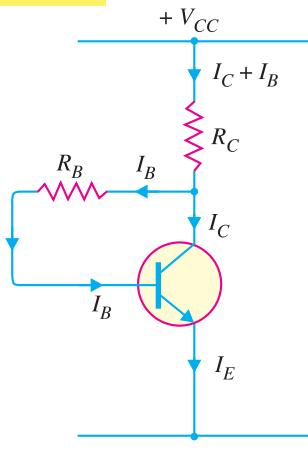

Fig. 9.19
In this method, one end of  $R_B$  is connected to the base and the other end to the collector as shown in Fig. 9.19. Here, the required zero signal base current is determined *not* by  $V_{CC}$  but by the collector-base voltage  $V_{CB}$ . It is clear that  $V_{CB}$  forward biases the base-emitter junction and hence base current  $I_B$  flows through  $R_B$ . This causes the zero signal collector current to flow in the circuit.
**Circuit analysis.** The required value of  $R_B$  needed to give the zero signal current  $I_C$  can be determined as follows. Referring to Fig. 9.19,
**Note.** It can be easily proved (See \*\*example 9.17) that Q-point values ( $I_C$  and  $V_{CE}$ ) for the circuit shown in Fig. 9.19 are given by :
\*\* Put  $R_E = 0$  for the expression of  $I_C$  in example 9.17. It is because in the present circuit (Fig. 9.19), there is no  $R_E$ .